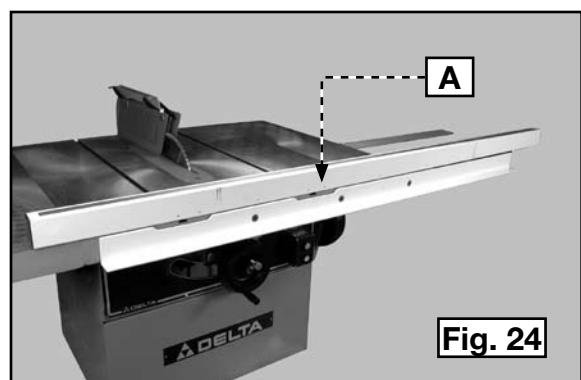
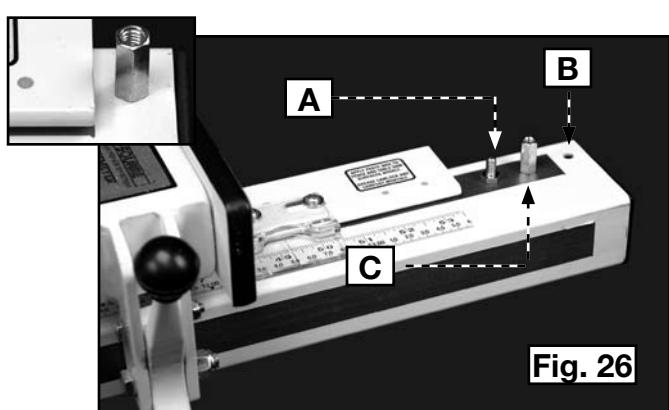

Fig. 24
Fig. 26
3. Place the guide tube (A) Fig. 24 on the saw table. Align the nine (9) threaded holes with the holes in the front ledge.
4. Position the guide tube on the front rail. Secure the guide tube with nine (9) 1/2" hex-head bolts and lockwashers.
6. Insert a bolt (A) Fig. 26 up through the hole (B) at the extreme right end of the guide tube. Thread the retaining nut (C) on the bolt (see the inset - Fig. 26)